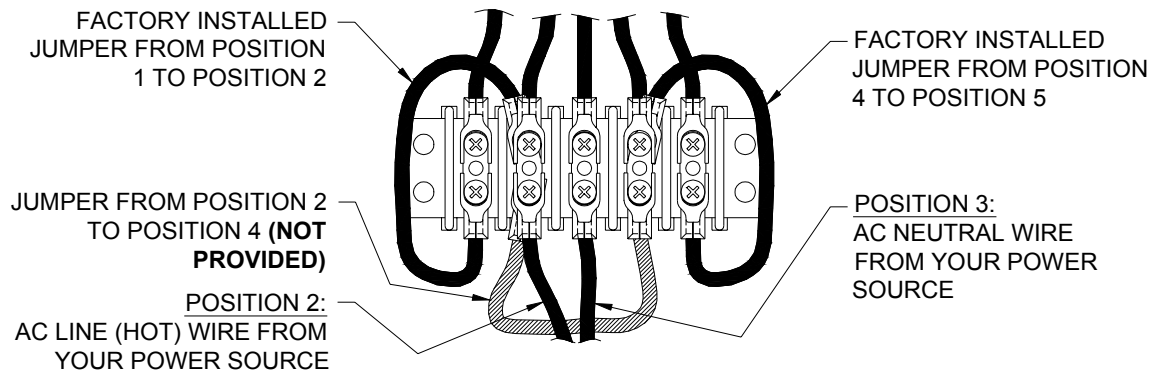

Figure 10 120 VAC Connections
5. If you are going to connect the scoreboard to a 120 VAC supply, connect the AC line wire to position 2 and the AC neutral wire to position 3 of terminal strip T4 on the junction chassis. Add a jumper from position 2 to position 4. **This jumper is not provided.** Refer to figure 10.